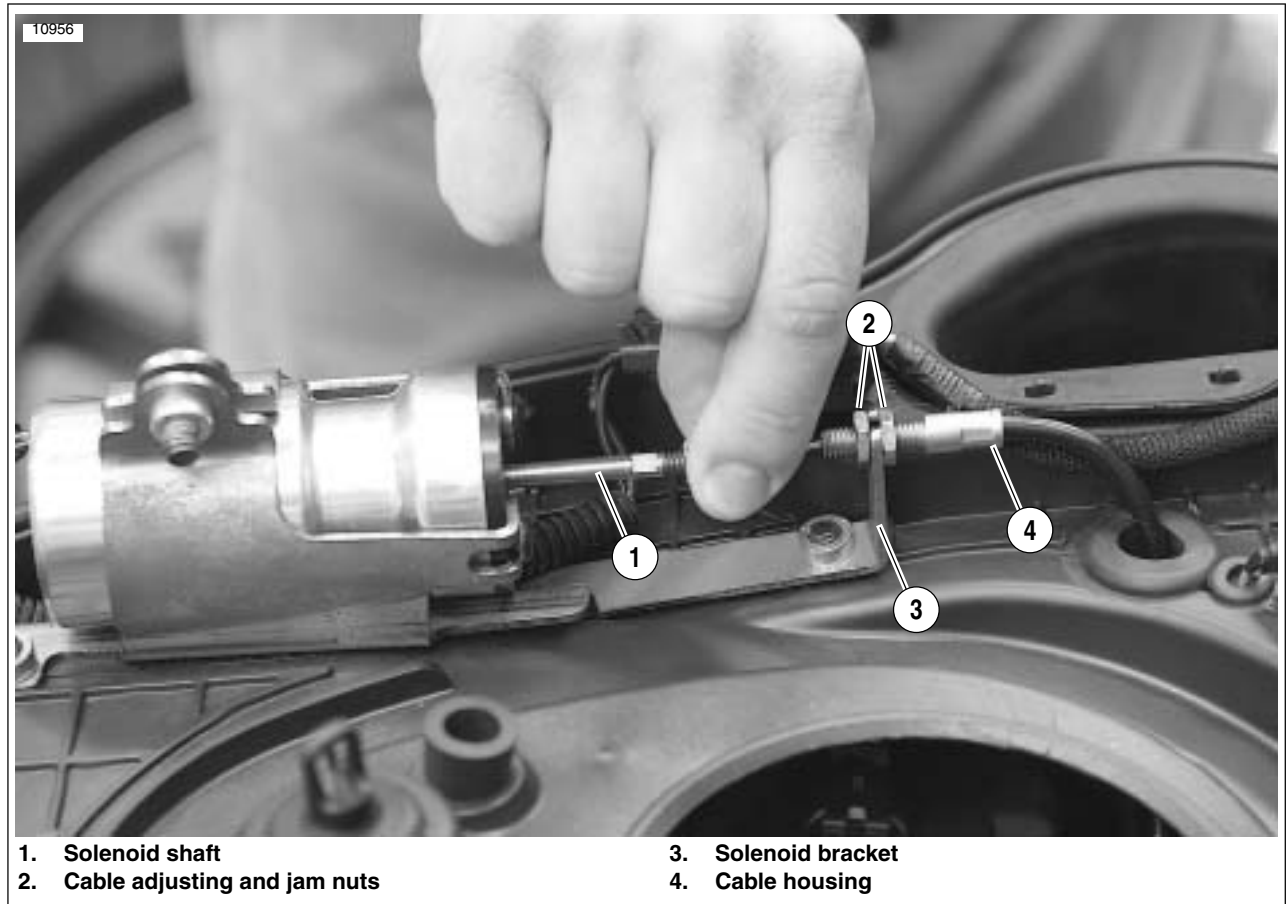

Figure E-2. Checking for Freeplay in the Solenoid Shaft in the Fully Extended Position
3. See Figure E-2. Inspect for proper extension freeplay in solenoid shaft:
- b. Pull solenoid shaft (1) outward to the fully extended position.